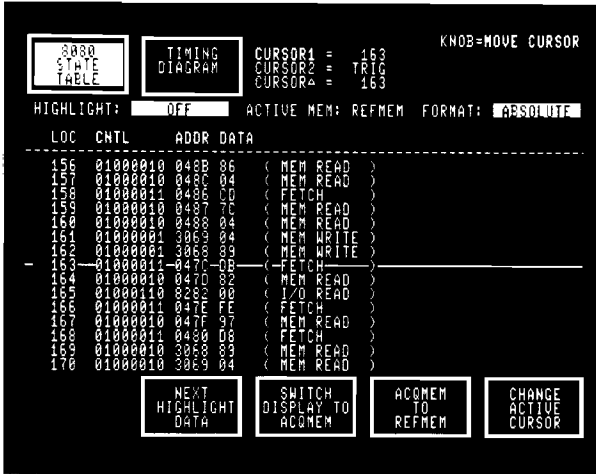

Figure 3. ABSOLUTE format adds cycle type information.
**ABSOLUTE.** This format is like the STATE format, but is enhanced by the addition of cycle type information. Look at Figure 3.